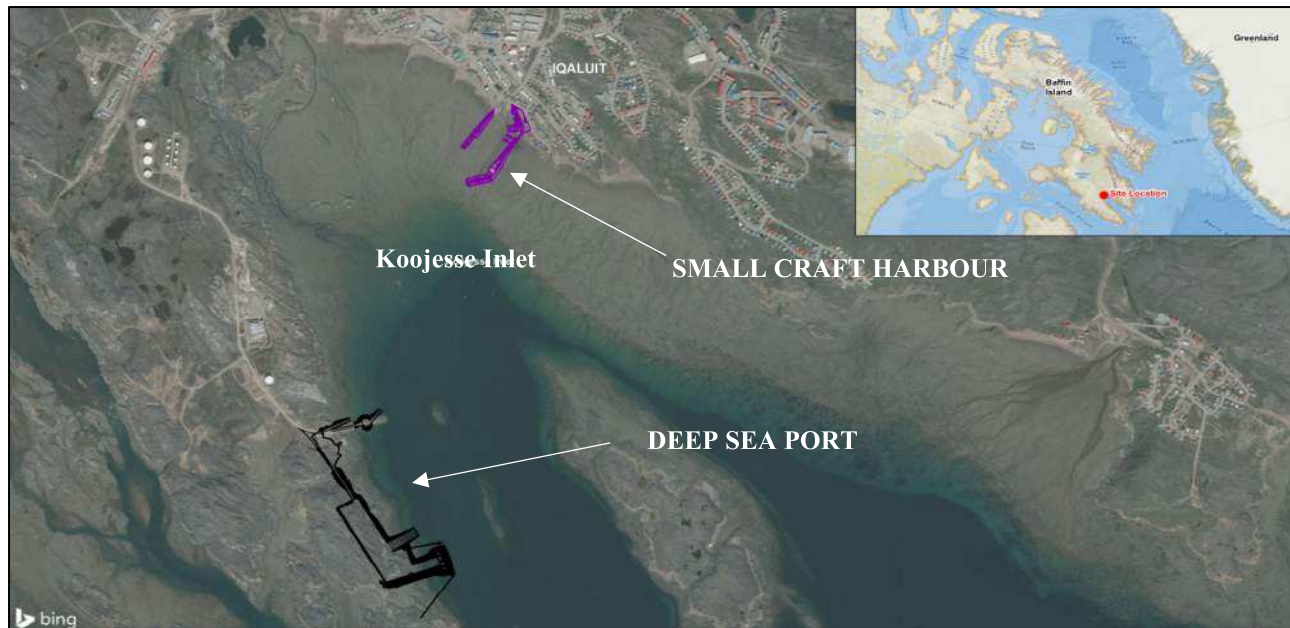

FIGURE 1-1 – PROJECT LOCATION
The Government of Nunavut (GN) has initiated the construction of two marine infrastructure projects in Iqaluit, Nunavut. The Small Craft Harbour (SCH) project and the Deep Sea Port (DSP) project were developed to improve the safety and functionality of the marine services in Iqaluit. Both projects are called « Iqaluit Marine Infrastructure Project ». The project is near the city of Iqaluit in the Qikiqtani region on Baffin Island and the construction activities took place on the west and east shores of Koojesse Inlet. Refer to **Figure 1-1** showing the general location of the project.